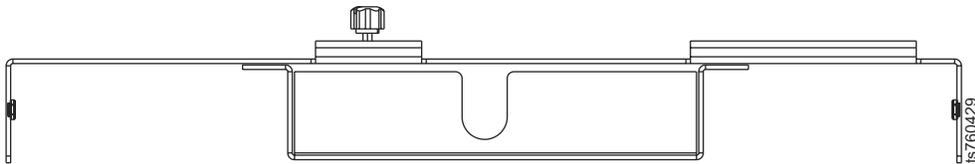

Figure 27. Center thumbscrew
7. Refer to Figure 27. Loosen the center thumbscrew on the rear of the tray.
20. Refer to Figure 27 on page 51. Tighten the center screw of the chassis.